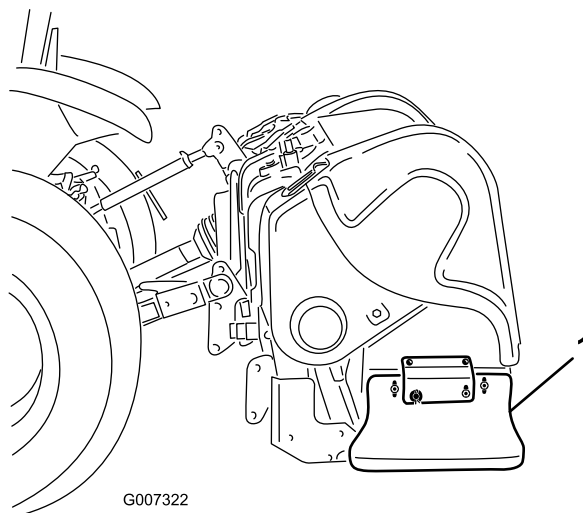

Figure 40
1. Loosen the bolts and nuts securing the side shield to frame (Figure 40).